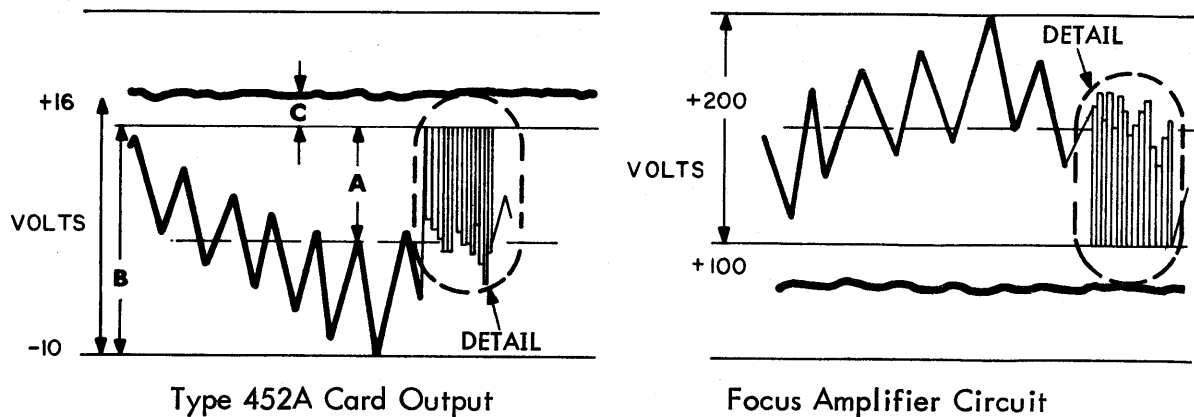

Figure 4-3. Approximate Focus and Astigmatism Waveshapes
- (d) Adjust pot. 1 at card location 1A6C13 (429A card) until $2A = B$, figure 4-3.
- (f) The ratio of B to C is between 1:13 and 1:17, figure 4-3. If not, adjust pot. 3 at card location 1A6C13 (429A card) until they are of the proper ratio.